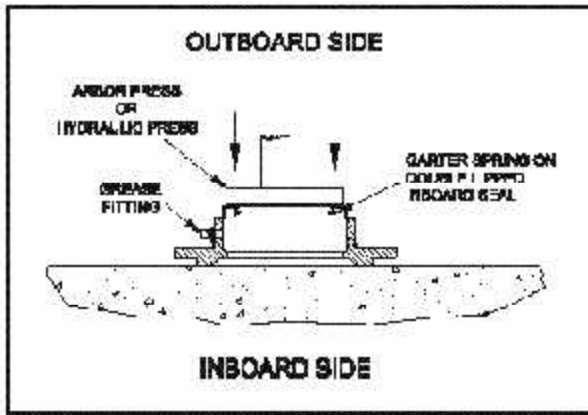

Figure 6.2.4.1A—Placement of Inboard Seal for Installation
4. Place seal carrier inboard side face down on a flat surface. Set the double lipped seal on seal carrier so that the opening on the seal where the garter spring is located faces the inboard side; reference Figure 6.2.4.1A.
5. With an arbor press or a hydraulic press, carefully push seal into seal carrier until the seal seats flush to the shelf of the seal carrier; reference Figure 6.2.4.1B.